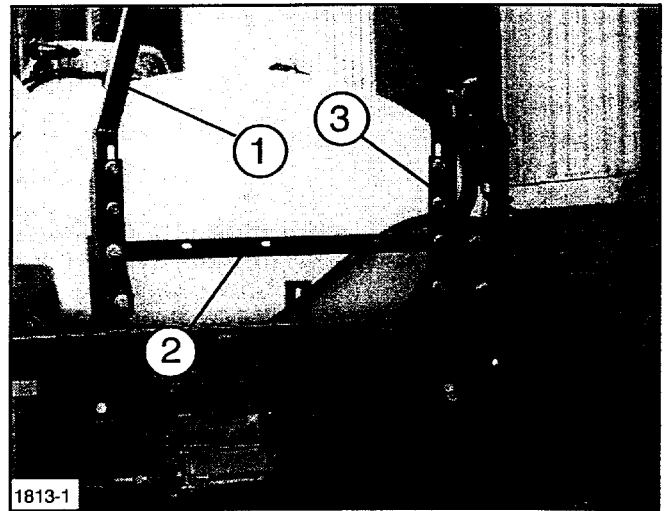

FIG. 2
3. Install the two (2) Boom Hold-In Assemblies and the Valve Mounting Bar to the top of the Boom Mount uprights as shown in FIG. 2, using four (4) 1/2" x 1-1/4" cap screws, and flange nuts.
4. Attach the two (2) "U"-shaped Boom Mounting Brackets to the third and fourth holes from the top of the Boom Mount uprights with four (4) 1/2" x 1-1/4" cap screws, and flange nuts. Torque to 75 ft-lbs (102 N-m).